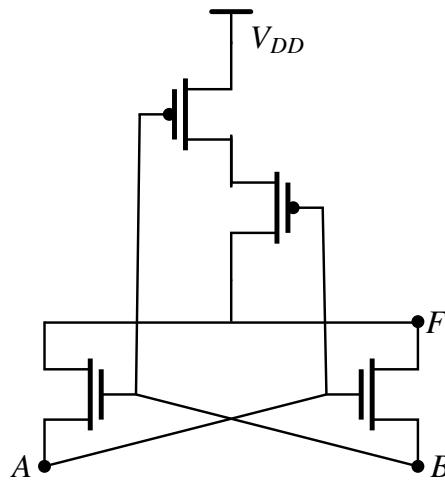

Fig. 5.34: Circuit Diagram
38. In the circuit shown in Fig. 5.34,  $A$  and  $B$  are the inputs and  $F$  is the output. What is the functionality of the circuit? (GATE-EC2019,15)